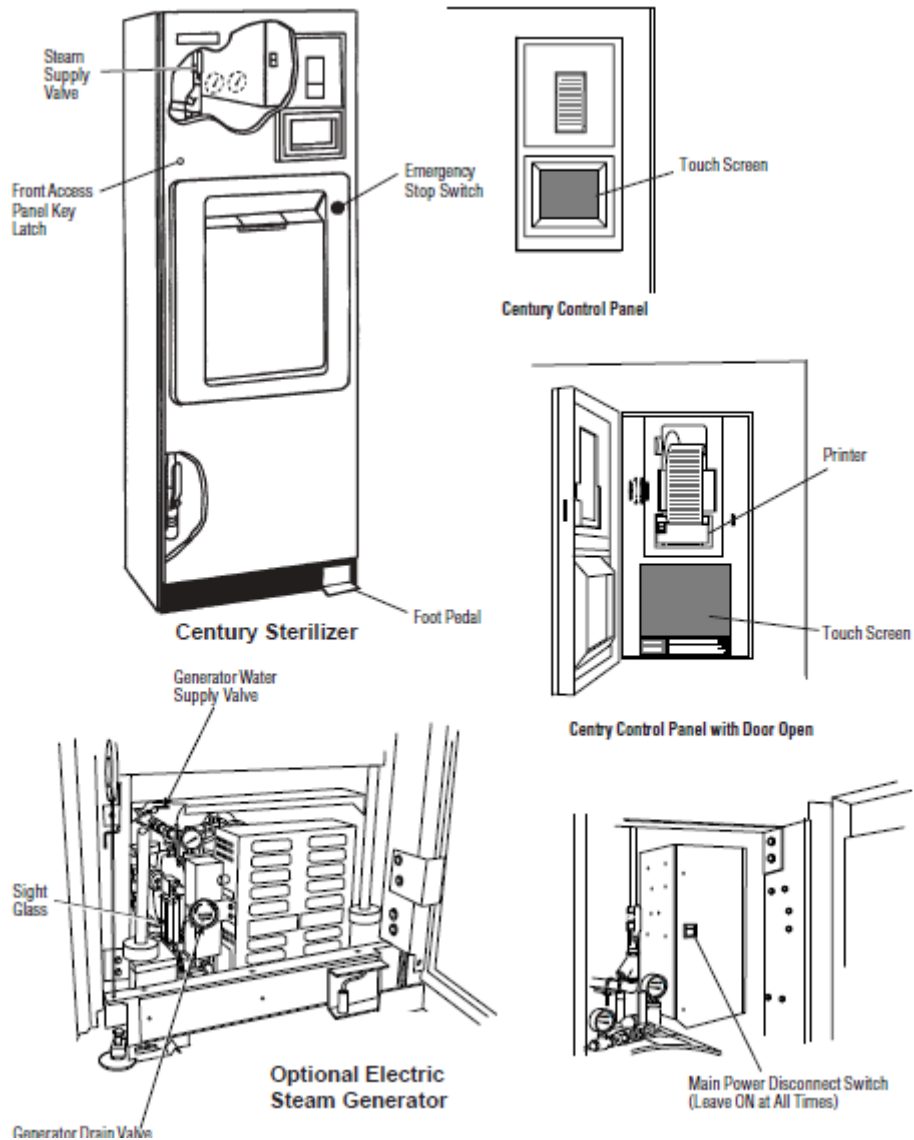

Figure 3-1. AMSCO Century Sterilizer Components
Use this manual to become familiar with control locations and functions before operating the sterilizer (refer to Figure 3-1). The controls for this sterilizer are contained within the control touch screen. Control touch pads appear on the screen as needed during each operation. Available controls change as the sterilizer steps through different operations.
- Main Power Disconnect Switch (refer to Figure 3-1) – Located behind the access door, on the main control box, this switch disconnects power to the control. Under normal operation, this switch is left in the open position at all times.
- Generator Water Supply Valve (refer to Figure 3-1) – This valve should always be open. Ensure it is open before attempting to operate the sterilizer.
- Generator Drain Valve (refer to Figure 3-1) – This should be opened once a day, while generator is at room temperature, to flush the generator of residual solids (present in most water) that may have accumulated in the generator's boiler. After the boiler has been flushed ensure the drain valve is then closed. Refer to instructions later in this section.
- Emergency Stop Switch (refer to Figure 3-1). – This red switch is located at the side of the power door, and is an emergency stop.
- Front Access Panel Key Latch (refer to Figure 3-1). – This latch is located above the front access panel, and is used to lock the front access panel.
Refer to Figure 3-1.